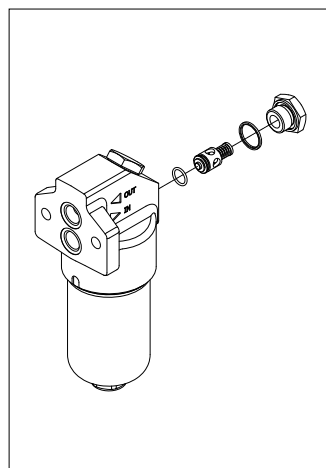

fig. 23
- (Fig. 23) Replace the O-rings of the bypass